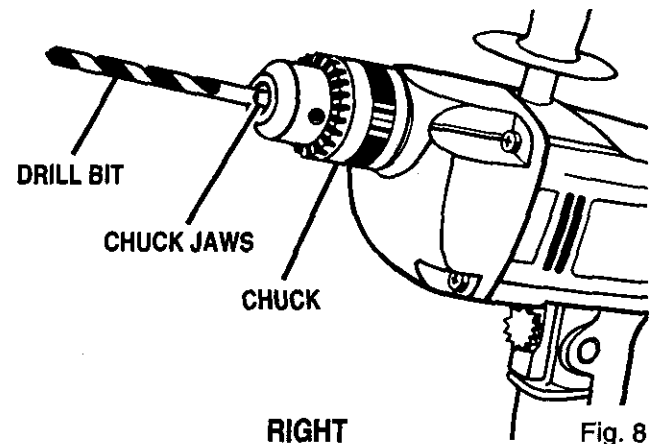

Fig. 8
See Figure 8.
- Insert drill bit straight into chuck the full length of the jaws as shown in figure 8.